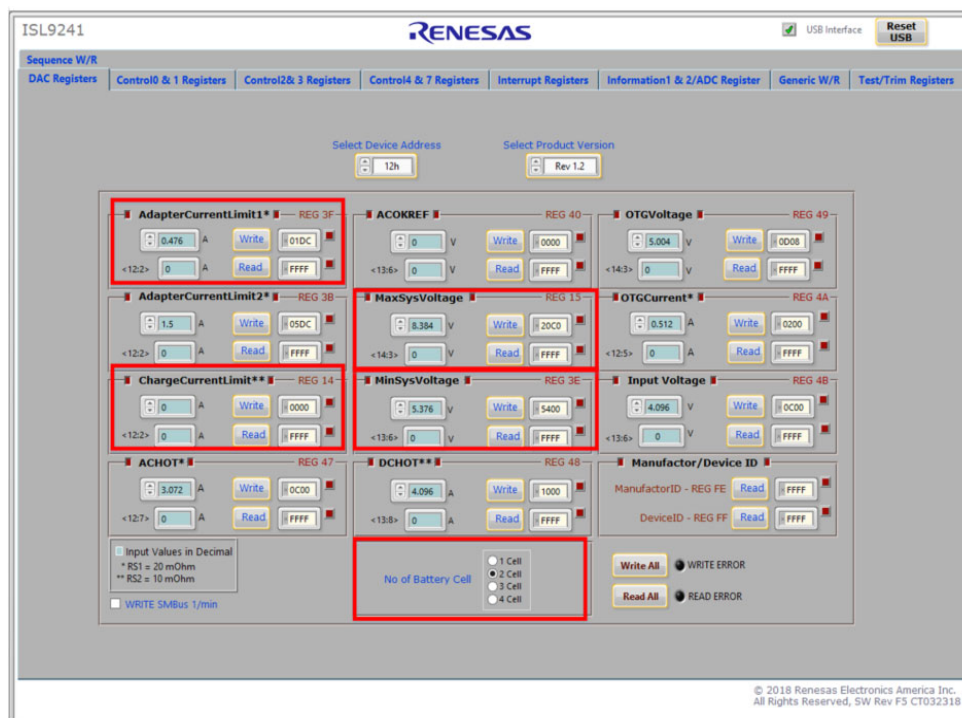

Figure 8. ISL9241 GUI
The number of battery cell and adapter current limit default values can be configured with a standard 1% 0603 resistor (R_{23}) from the PROG pin to GND. The *Prog Pin Programming Options* table in the ISL9241 datasheet shows the programming options. After the default number of cells in series is set, the default values for MaxSystemVoltage and MinSystemVoltage are set accordingly. These values can also be changed through the SMBus control registers, which are implemented with the Renesas GUI shown in Figure 8 on page 10.
4. Turn on the power supply; LED3 goes out. Turn on the battery emulator and open the Renesas ISL9241 GUI (Figure 8).